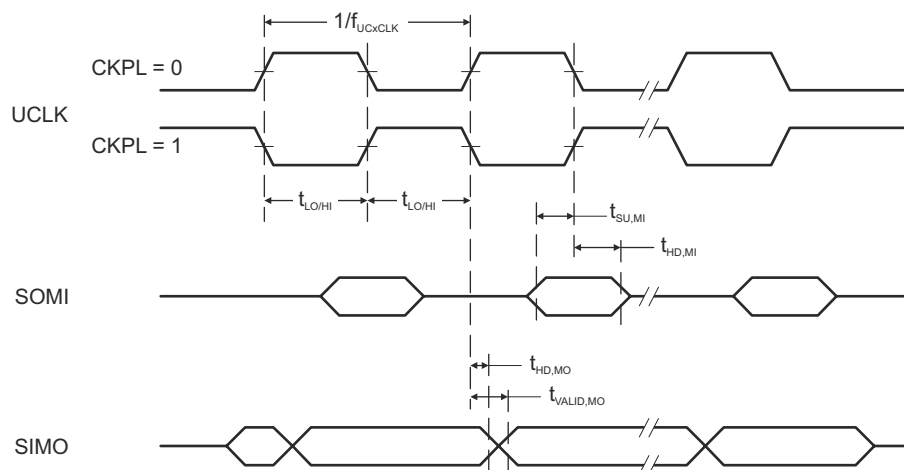
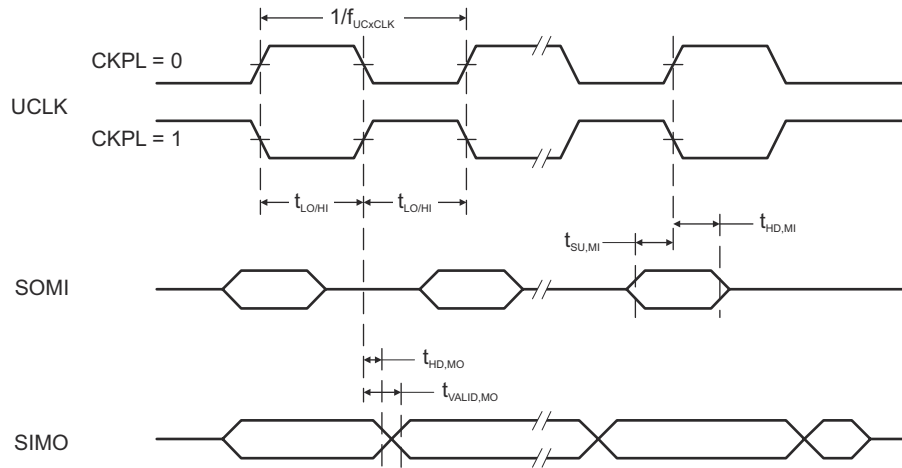

Figure 7-12. SPI Master Mode, CKPH = 0
Figure 7-13. SPI Master Mode, CKPH = 1
- (1) $f_{UCxCLK} = 1/2t_{LO/Hi}$ with $t_{LO/Hi} \geq \max(t_{VALID,MO}(USCI) + t_{SU,SI}(Slave), t_{SU,MI}(USCI) + t_{VALID,SO}(Slave))$. For the slave parameters $t_{SU,SI}(Slave)$ and $t_{VALID,SO}(Slave)$, see the SPI parameters of the attached slave.
- (2) Specifies the time to drive the next valid data to the SIMO output after the output changing UCLK clock edge. See the timing diagrams in Figure 7-12 and Figure 7-13.
- (3) Specifies how long data on the SIMO output is valid after the output changing UCLK clock edge. Negative values indicate that the data on the SIMO output can become invalid before the output changing clock edge observed on UCLK. See the timing diagrams in Figure 7-12 and Figure 7-13.